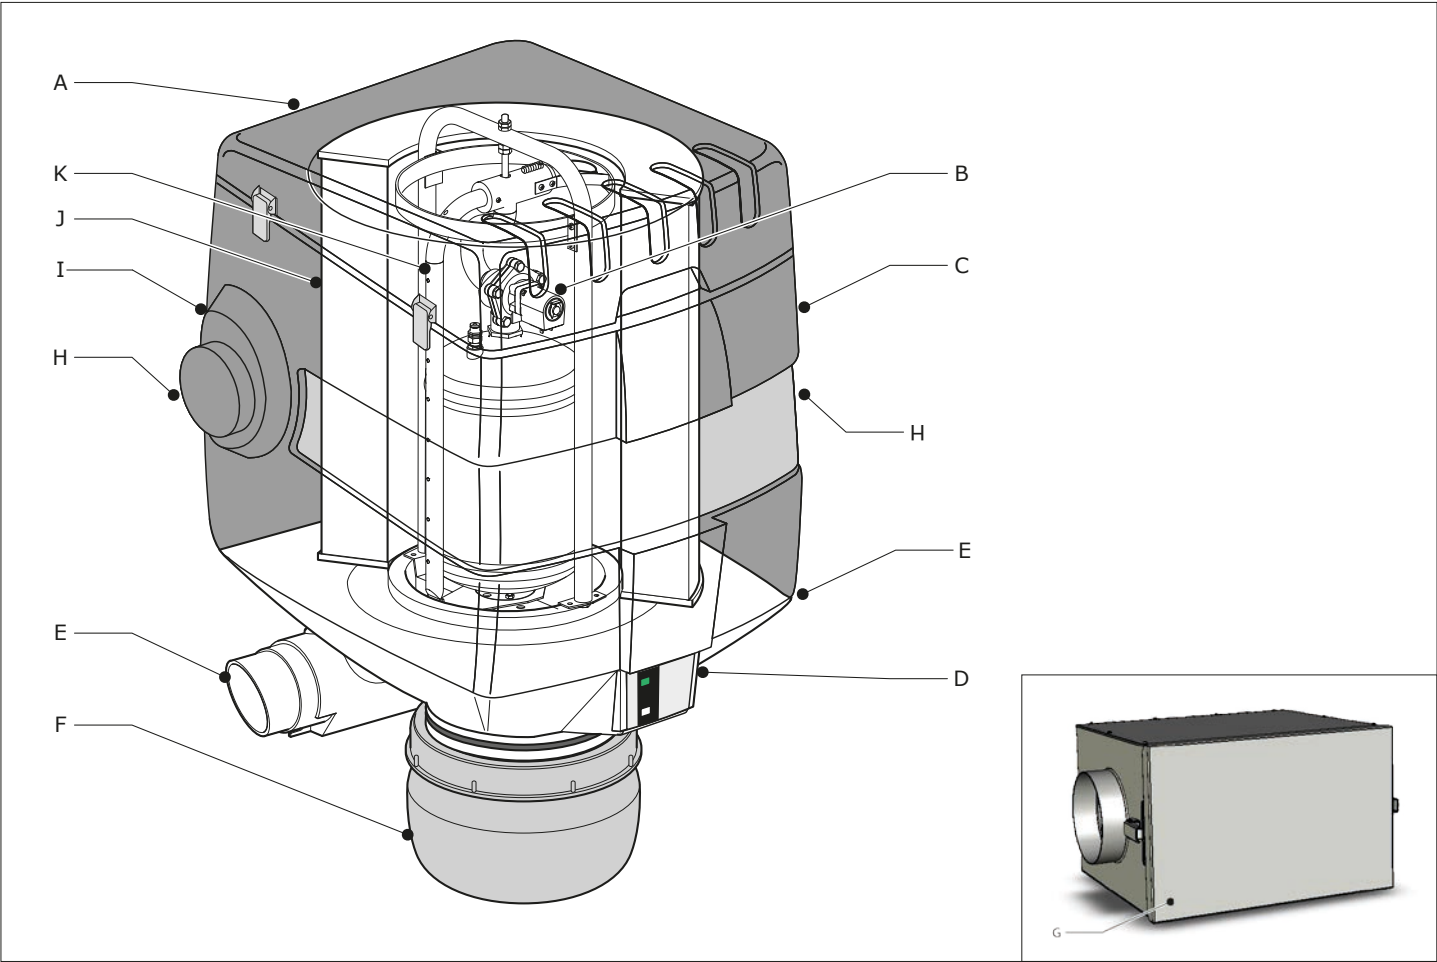

Fig. 3.1
The self-cleaning welding fume filter consists of the following main components (see Fig. 3.1):
- Fig. 3.1:
The polluted fume is blown into the welding fume filter by an external extraction fan via a spiralo-tube or a flexible hose and via the prefilter box (see Fig. 3.1 G), where the larger particles and any sparks are separated.
Subsequently the air by the filter (Fig. 3.1 J) with a filtering surface of approximately 30 m² (325 ft²) in which almost all particles (from 0,3 µm) are caught.
Via the outlet opening(s) (Fig. 3.1 E) the clean air leaves the filter and if desired it can be returned to the workshop or discharged outside.
When the filter becomes heavily saturated - and consequently the extraction capacity strongly reduces - a pressure difference switch activates the RoboClean compressed air cleaning mechanism which thoroughly cleans the filter using sections controlled compressed air charges. The dust and dirt particles fall in a plastic dust barrel (Fig. 3.1 F) on the outside of the filter.